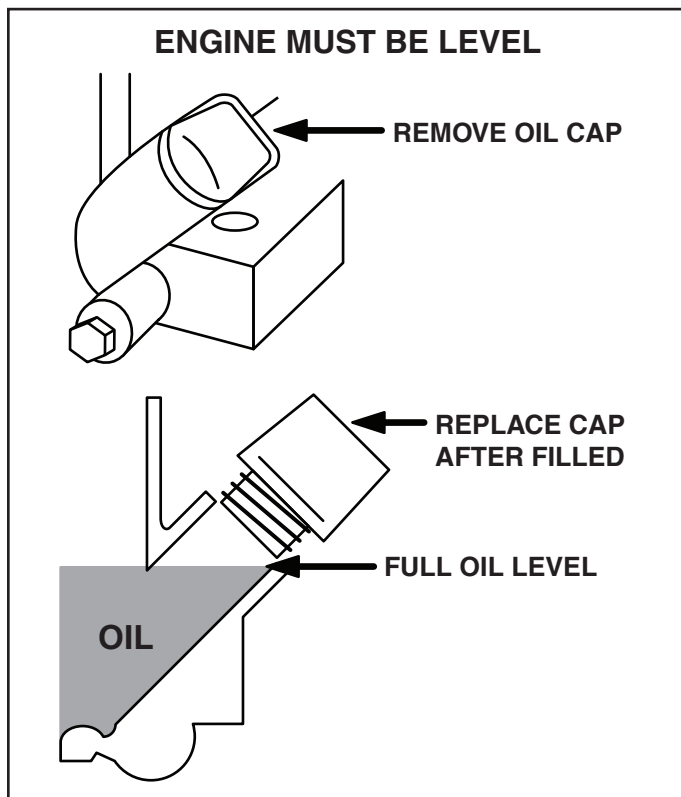

FIGURE 11
- Maintain oil at level shown in figure 11 below.